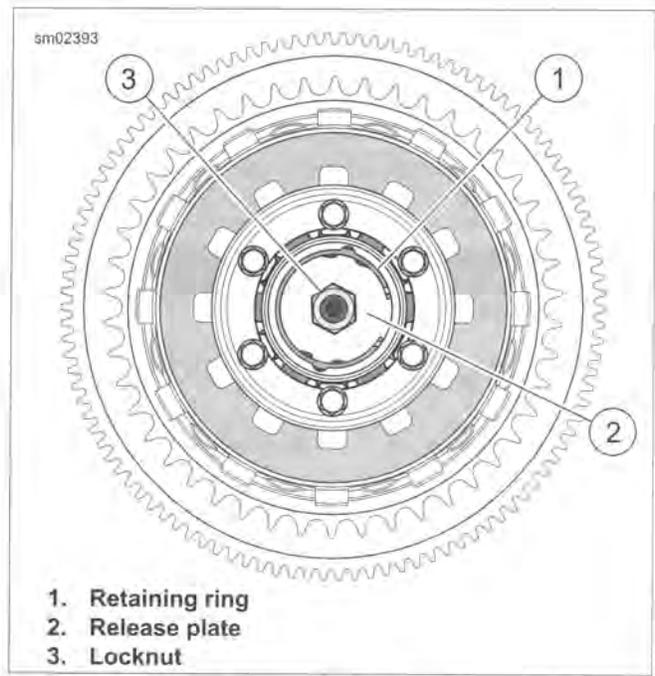
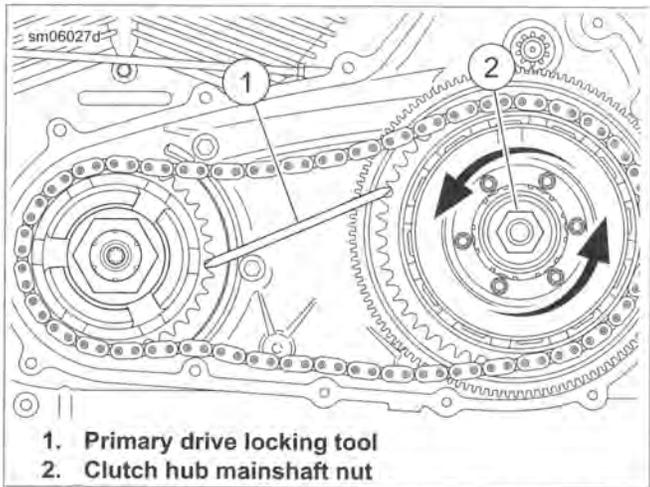

Figure 5-14. Clutch
Figure 5-13. Installing Clutch Hub Mainshaft Nut
7. Tighten compensating sprocket bolt (1) to 100 ft-lbs (135.6 Nm).
10. See Figure 5-13. Install the PRIMARY DRIVE LOCKING TOOL (Part No. HD-48219) between the teeth of the engine and clutch sprockets as shown.
11. Tighten clutch hub mainshaft nut (2) to 70-80 ft-lbs (94.9-108.5 Nm). Remove primary drive locking tool.
12. See Figure 5-14. Install release plate (2) with locknut (3) and adjuster screw into clutch hub bore. The word "OUT" stamped on the release plate faces out.